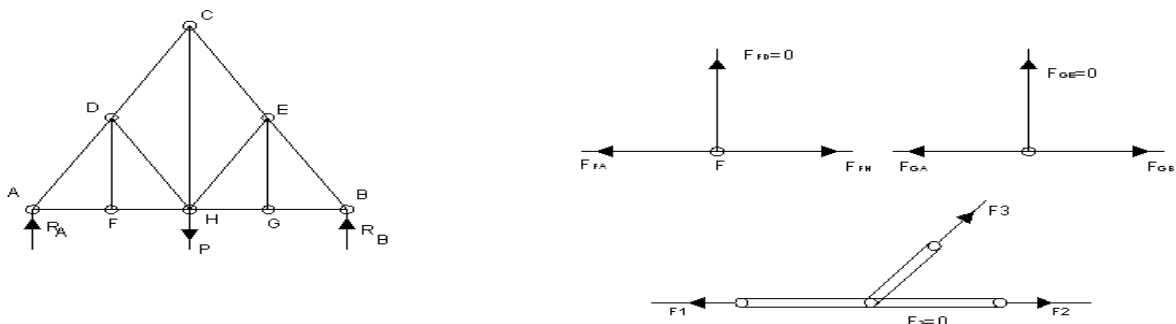

fig6.4
- When there are three members meeting at a joint, of which two are collinear and the third be at an angle and if there is no load at the joint the force in the 3rd member is zero, as shown in fig. 6.4.